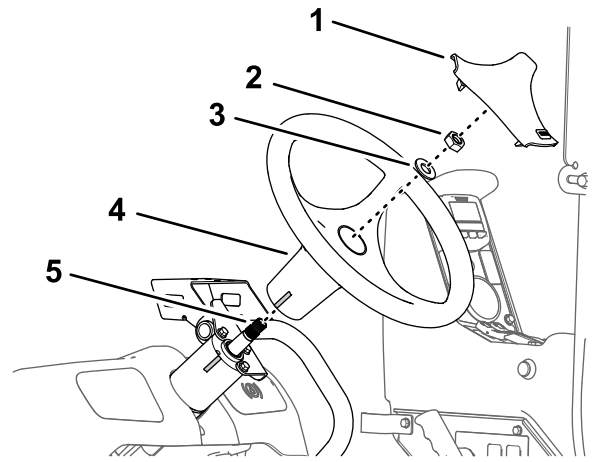

Figure 163
1. Align the tape mark on the steering wheel to the tale mark on the housing of the steering valve (Figure 163).
2. Assemble the steering wheel onto the shaft of the steering valve (Figure 163) with the washer (5/8 inch) and nut (5/8 inch) that you removed in step 3 of Removing the Steering Wheel (page 69).